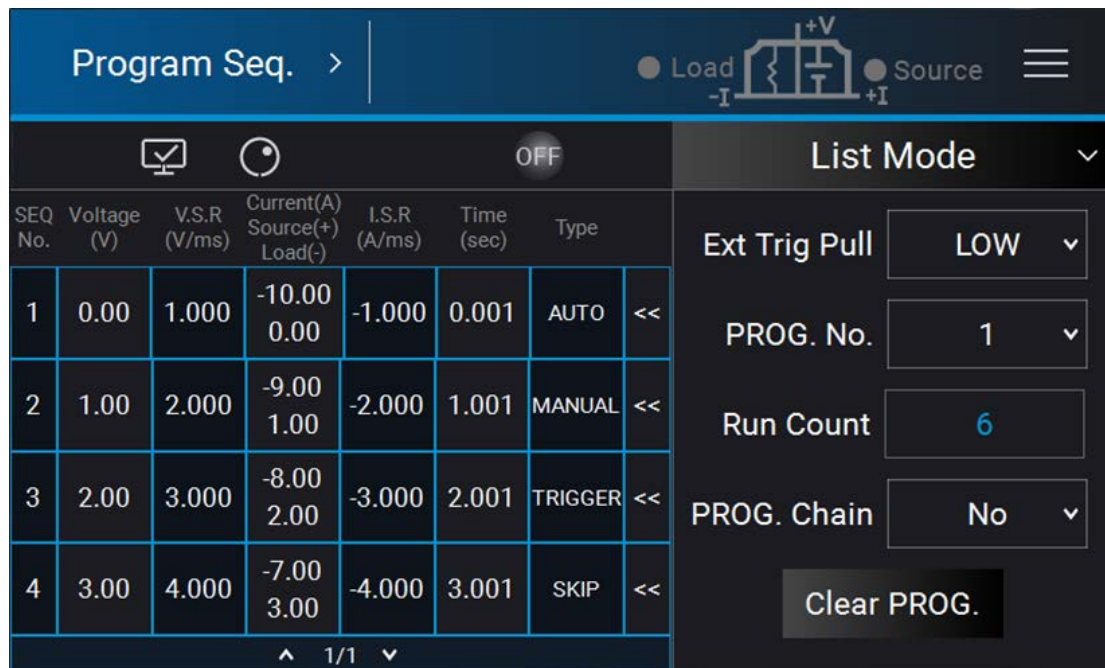

Figure 4-1
2. In Program Seq. page, select LIST MODE and the screen appears as Figure 4-1.
1. Enter into Program Seq. and the screen appears as shown in Figure 4-1.